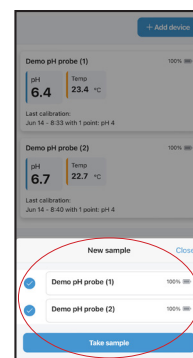

Figure 2
- Select which probes you want to use for the sample and click **Take Sample** (Figure 2)